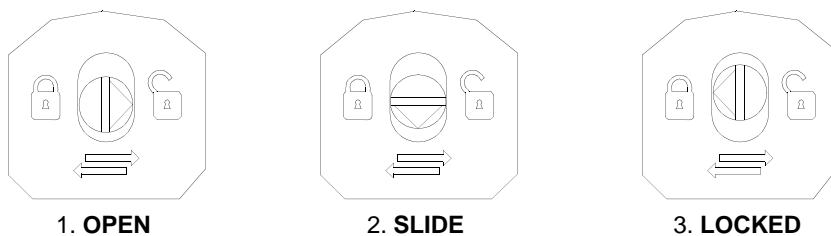

Figure 2.2: Baseplate Locking Device
Mounting the units onto the DIN-rail only requires a blade screwdriver that fits securely into the baseplate locking screw (1 mm slot). For further details on mounting procedure, see Figure 2.2 on page 71.
3. Rotate the locking device to the **SLIDE** position (2) on the unit baseplate, see Figure 2.2 on page 71.